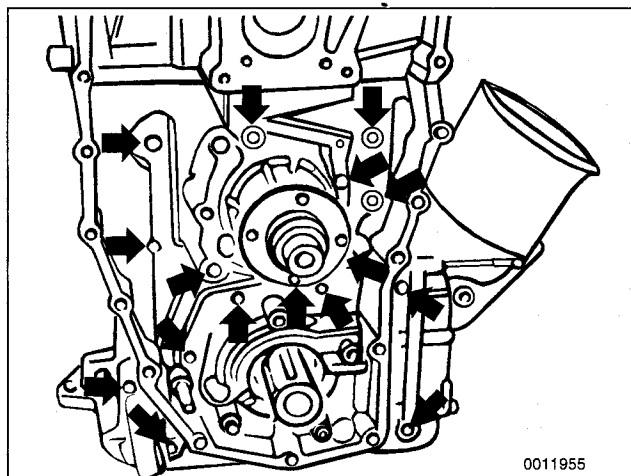

Fig. 13. Timing chain case mounting bolts (arrows) on M44 engine.
7. Unbolt timing chain case from front of engine. See Fig. 13.